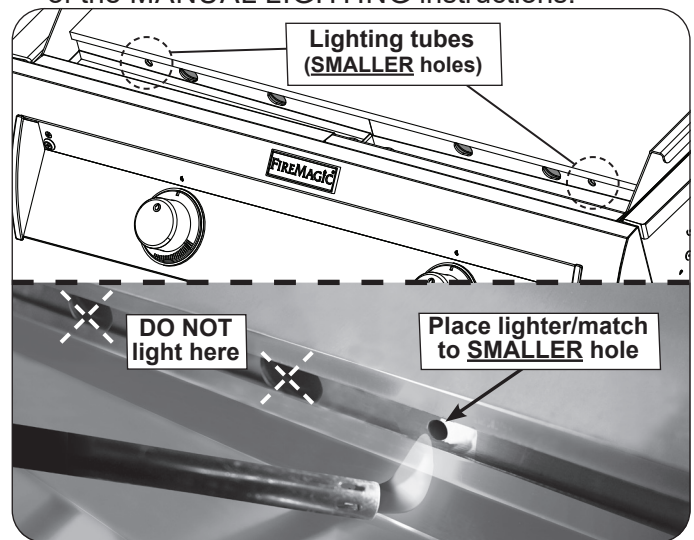

Fig. 36-3 - Manual lighting
2. Hold a burning long-barrel butane lighter or burning long-stem match up to the opening of the lighting tube (**SMALLER hole**) for **5 seconds**. Then depress the appropriate control knob and while pressing turn it counterclockwise to the **HI LIGHT** position. Remove the lighter or match when the burner lights, and release the control knob. See Fig. 36-3.
4. If the burner does not light within five (5) seconds of turning the control knob, **immediately depress the knob and turn the valve to OFF**. **WAIT FIVE (5) MINUTES** before repeating steps 2 through 4 of the **MANUAL LIGHTING** instructions.